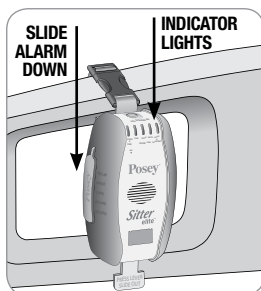

Fig. 42
3. Slide alarm onto bracket from top down until it is firmly in place (Fig. 42). Make sure alarm indicator lights are in clear view of staff.